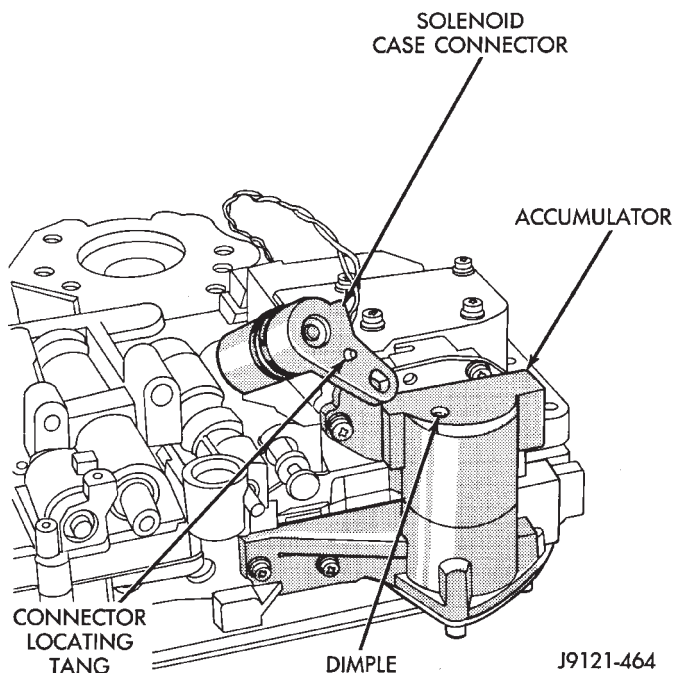

Fig. 124 Solenoid Connector Installation—46RH
(6) Attach solenoid case connector to 3-4 accumulator with shoulder-type screw. Connector has small locating tang that fits in dimple at top of accumulator housing (Fig. 124). Seat tang in dimple before tightening connector screw.
(7) Install solenoid assembly and gasket. Tighten solenoid attaching screws to 8 N•m (72 in. lbs.) torque.